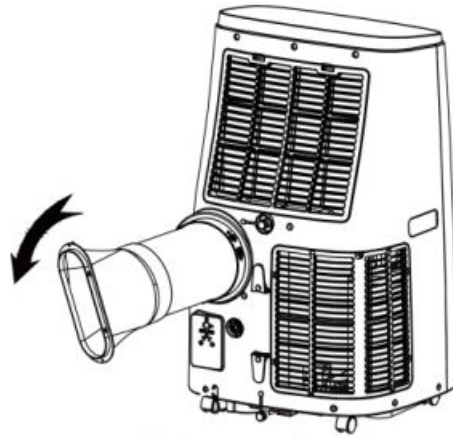

Figure 1
1.1 Install the heat pipe assembly as shown in Fig.1
2) insert the heat pipe assembly (the end of the exhaust joint) into the back panel vent slot (push to the left) and complete the assembly (as shown in figure 1).